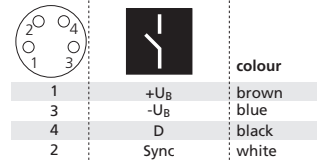

Fig. 2: Pin assignment with view onto sensor plug and colour coding of the microsonic connection cable
- Connect a connection cable to the M8 device plug, s. fig. 2.